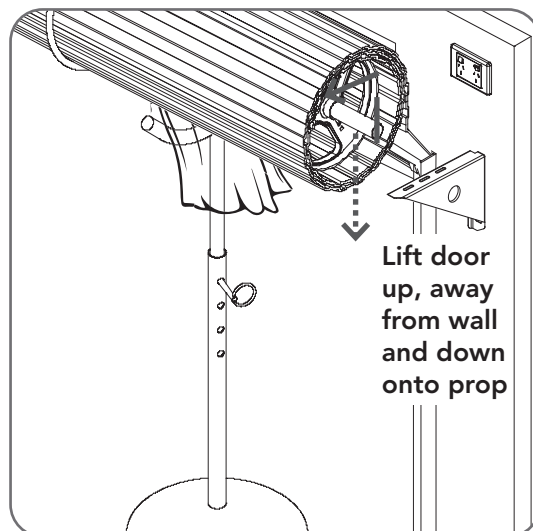

Fig. 6.6
- Lift the door up and away from the wall until clear of the door bracket, before lowering the door to rest on the door stand or prop. **(Fig 6.6)**